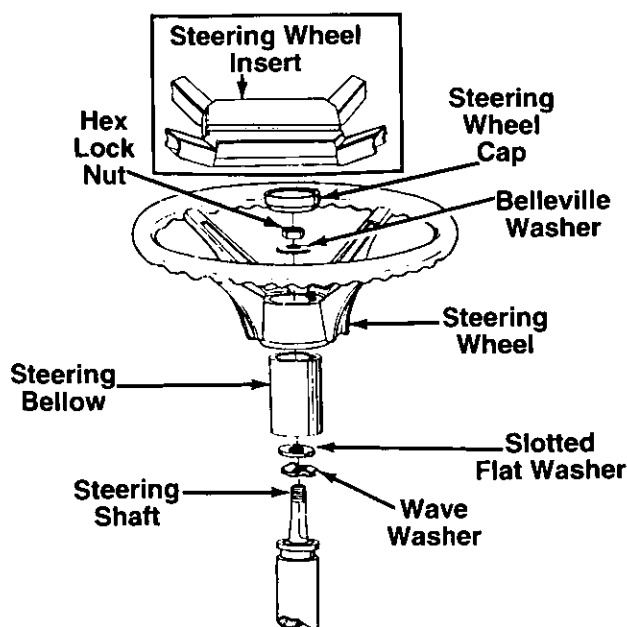

FIGURE 4.
STEERING WHEEL INSTALLATION (See Figure 4)
6. Place the washer with the cupped side down over the steering shaft. Secure with 5/16" hex lock nut. See figure 4.